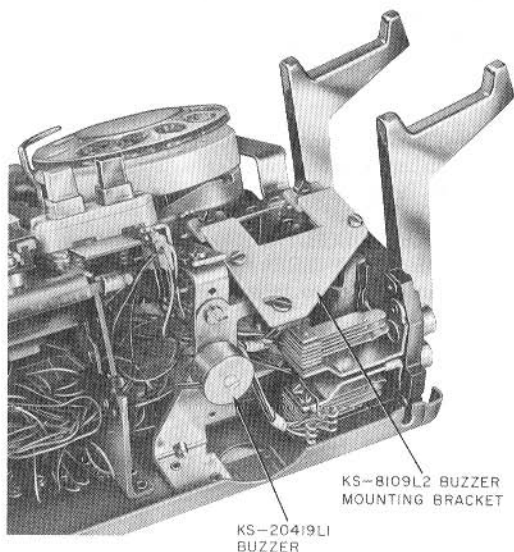

Fig. 15—Mounting Location for First Buzzer
2.25 Current model CALL DIRECTOR sets are furnished from the factory equipped with a KS-20419L1 (10 volt AC only) buzzer (Fig. 15).
2.26 In early model CALL DIRECTOR sets, KS-8100 type buzzers were mounted at location shown in Fig. 15 and 17.
2.27 If a second buzzer is required, a KS-20419L1 can be mounted at any convenient location using a single screw and KS-8109L2 at location shown in Fig. 15 or 17.